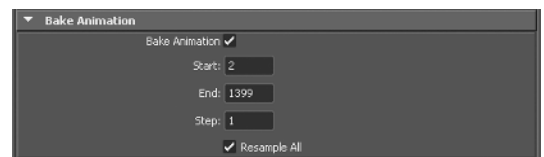

Figure 1.39
9. Select Bake Animation. The Start and End times should be filled in already. If they aren't, check the scene and enter the appropriate numbers (see Figure 1.39).